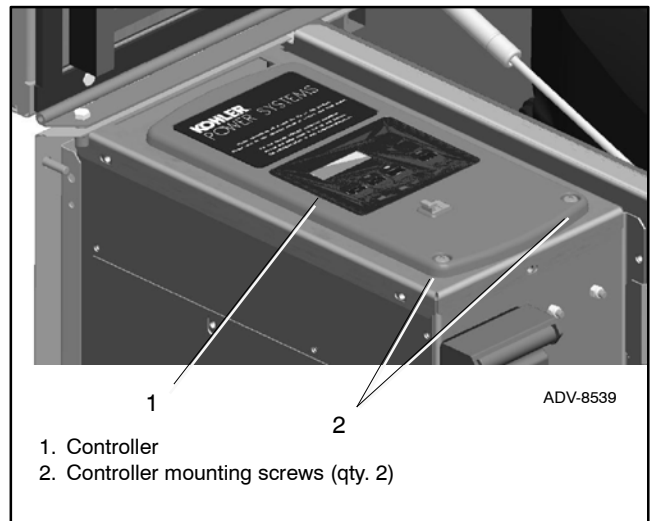

Figure 3-6 Controller Location
1. Using the enclosure locking tool provided with the generator set, open the enclosure roof. See Figure 3-6.
5. Remove the two (2) screws securing the controller to the junction box and *carefully* lift the bottom edge of the controller. See Figure 3-6.